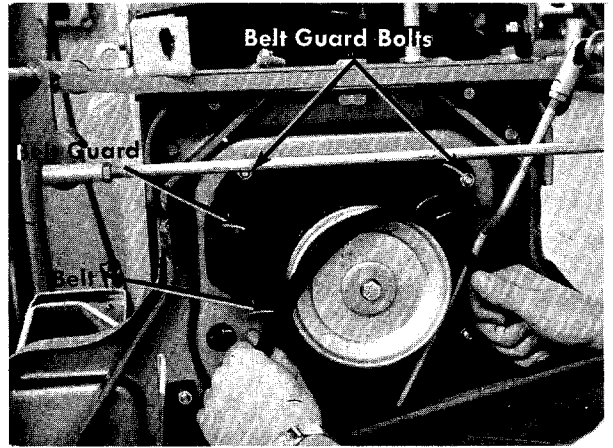

FIGURE 25. REMOVING MOWER BELT
- Step 3. Unhook the belt from the engine pulley. See figure 25.